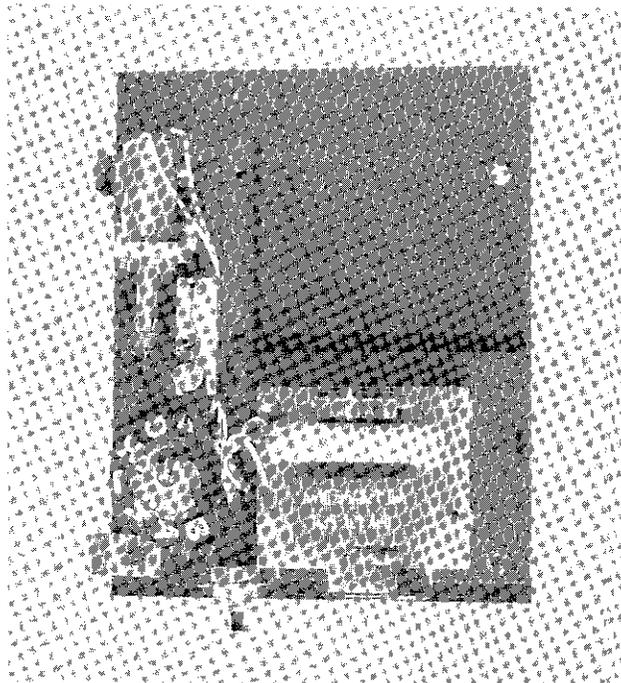

Fig.4
- e. Check to make sure the ratchet mechanism is working properly. To do so, press the ratchet escapement (see fig.4) towards the solenoid several times. Observe if the ratchet wheel turns to each consecutive letter as the escapement is pressed each time.